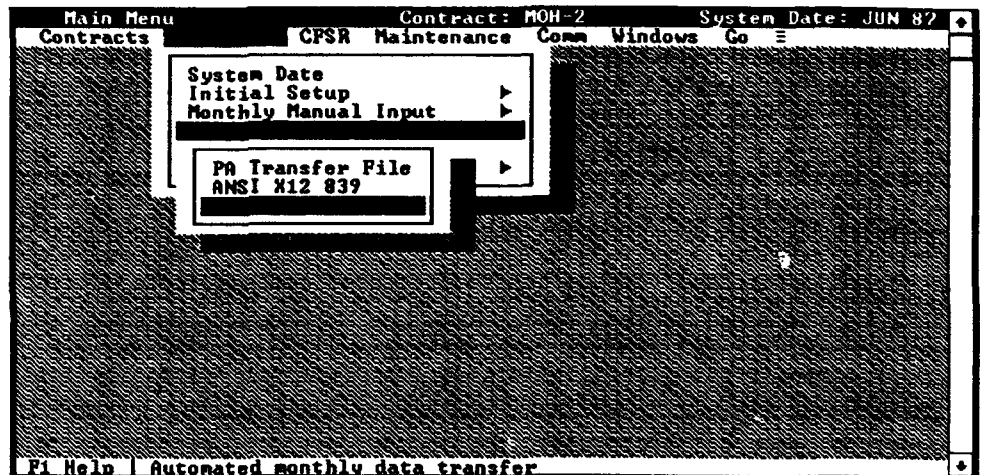

Figure 3-32
PA provides the capability to import data from the Contract Appraisal System (CAPPS), which was developed by the Defense Systems Management College (DSMC). (Figure 3-32). CAPPS provides most of the information supported by PA, with the following limitations: (1) CAPPS does not provide Formats 3, 4, or 5 of the CPR, and (2) CAPPS does not identify Indirect Costs elements (i.e., Overhead, General & Administration, Cost of Money) or Undistributed Budget in the same manner as PA. CAPPS is limited to 100 elements.